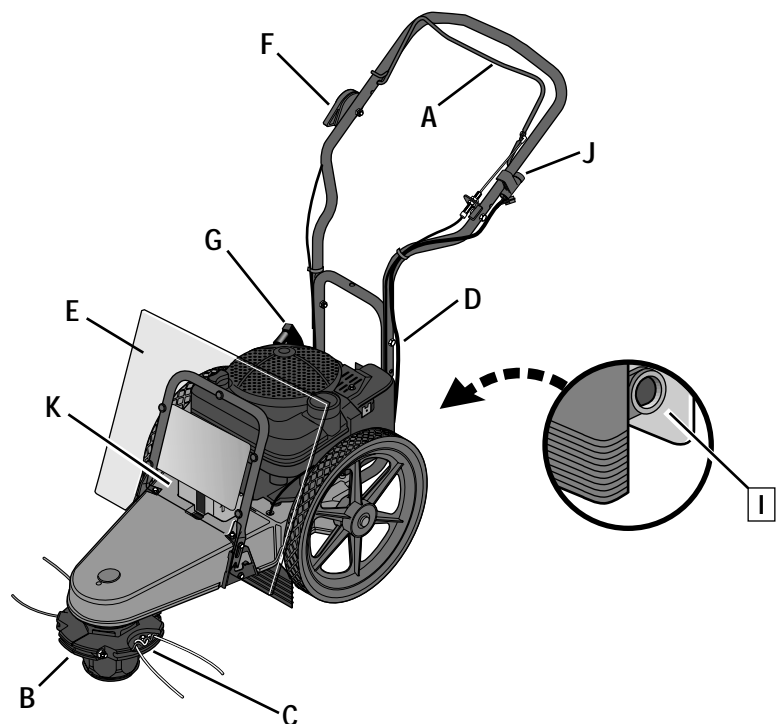

Figure 3-1: Features and controls (electric start model shown).
Pull the control bail (A, Figure 3-1) up against the handlebar (engage bail) to start rotation of the trimmer head. Let go of the control bail (disengage bail) to stop the trimmer head.
The trimmer head (B, Figure 3-1) is adjustable to an infinite number of height settings from 1-1/2" -to- 4-1/2".
The trimmer lines are secured to line holders (C, Figure 3-1). Replacing the trimmer lines is a simple procedure (see "Changing Trimming Lines" in Section 5).
The handlebar (D, Figure 3-1) has two height settings (see "Adjust Handlebar Height" in Section 4).
The plastic debris shield (E, Figure 3-1) protects the engine from all manner of debris. The shield tilts forward for access to the engine.
Use this lever (F, Figure 3-1) to regulate engine speed and to stop the engine. The throttle settings are shown on the decal next to the lever.
The recoil starter (G, Figure 3-1) is located at the rear of the engine and is used to pull start the engine.
The keyswitch (J, Figure 3-1) activates the starter motor to start the engine. The keyswitch does not have an engine stop position. Use the Engine Throttle Control Lever (F) to stop the engine.
The battery (K, Figure 3-1) cranks the engine starter motor when the keyswitch is turned to the start position. Do not crank engine longer than five (5) seconds per each starting attempt.
1. Lift and tilt plastic debris shield (E, Figure 3-1) forward.